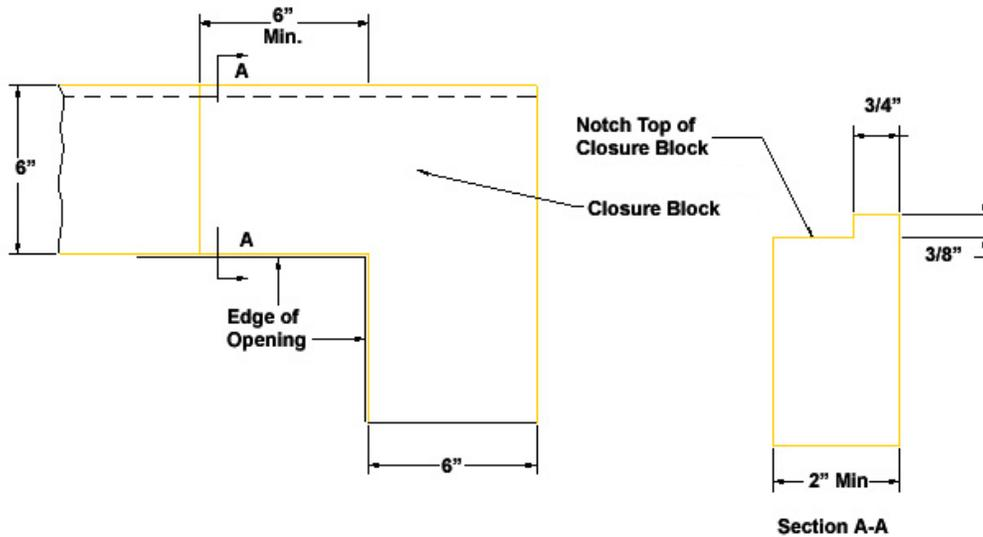

Fig. 24
- h. Offset the joints of the Closure Blocks a minimum of 6 in (152 mm) from the corner of the opening by using an L-shaped closure block at each corner as shown in Figure 24.